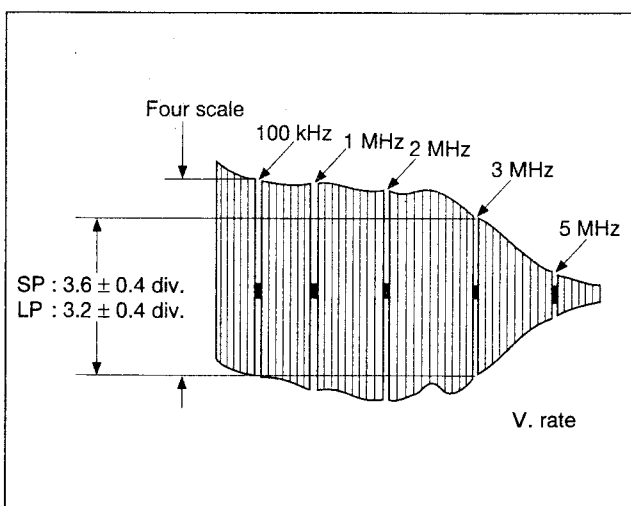

Fig. 3-3-7 S-VHS VIDEO EQ
- (1) Connect an oscilloscope to Y OUT TERMINAL and TP111 (negative slope).
- (2) Record a video sweep signal in the S-VHS SP mode, then play it back.
- (3) Set the EVR mode by transmitting a data code "57" with the Jig RCU.
- (4) Set "A : 3" by pressing 3 button of the remote controller.
- (5) When assuming the 100 KHz sweep signal marker on the bigger channel is four scales on the oscilloscope, adjust the CH "+" or "-" buttons on the front panel or the Digit-key remote controller so that the 3 MHz is set at 3.6 ± 0.4 scale (-1 ± 1.0 dB) while observing Y OUT of the S output. (See Fig. 3-3-7.)
- (6) Set the normal VCR mode by transmitting the data code "57" with the Jig RCU again so adjustment data is memorized.
- (7) Carry out the step (3) and (4) in the S-VHS LP mode.
- (8) When assuming the 100 kHz sweep signal marker on the bigger channel is four scales on the oscilloscope, adjust the CH "+" or "-" buttons on the front panel or the Digit-key remote controller so that the 3 MHz is set at 3.2 ± 0.4 scale (-2 ± 1.0 dB) while observing Y OUT of the S output. (See Fig. 3-3-7.)